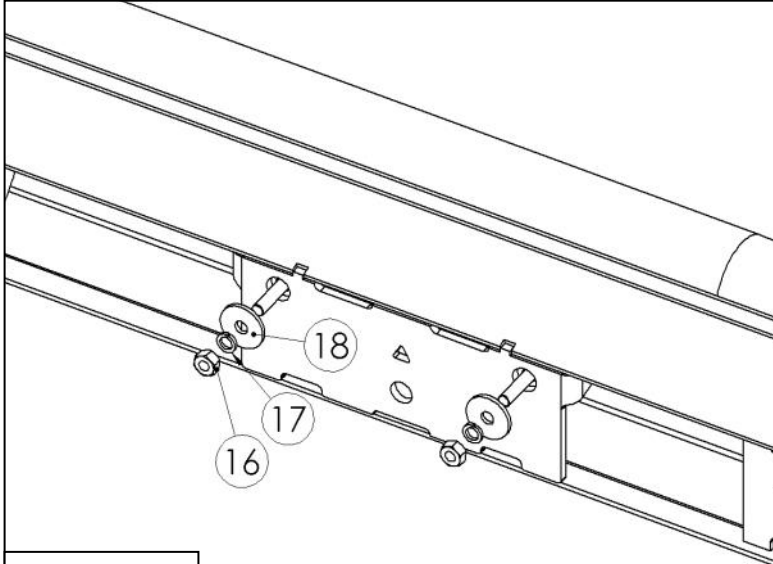

Figure 5
4. Insert (6) M6 bolt plates (item 19) into the XTS rock slider driver side and tape them in place.
5. Use the M6 hardware (items 16-18) to loosely attach the rock slider to the pinch weld. See **Figure 5**.